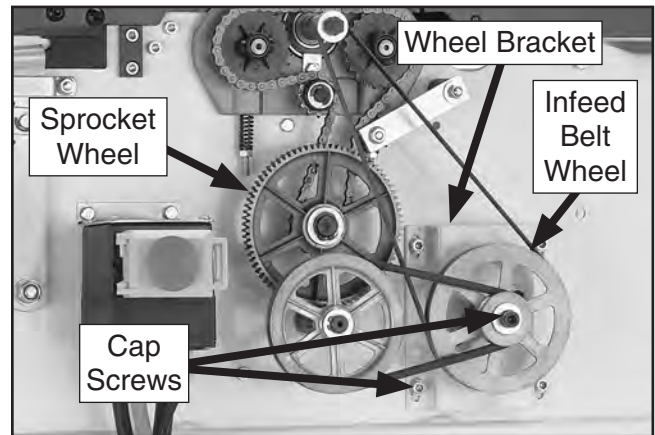

Figure 76. Wheel bracket cap screws.
5. Loosen the four cap screws on the wheel bracket, and one cap screw on the infeed belt wheel, raise the infeed wheel and roll the flat belt off (see **Figure 76**).